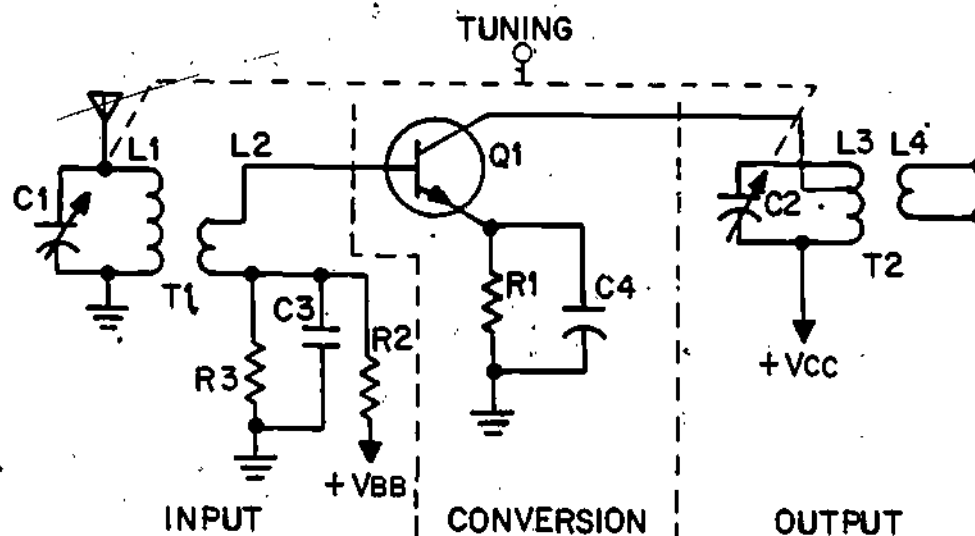

Figure 20
23. Now let's trace a signal through the entire amplifier, shown again in Figure 20, to see how it operates.